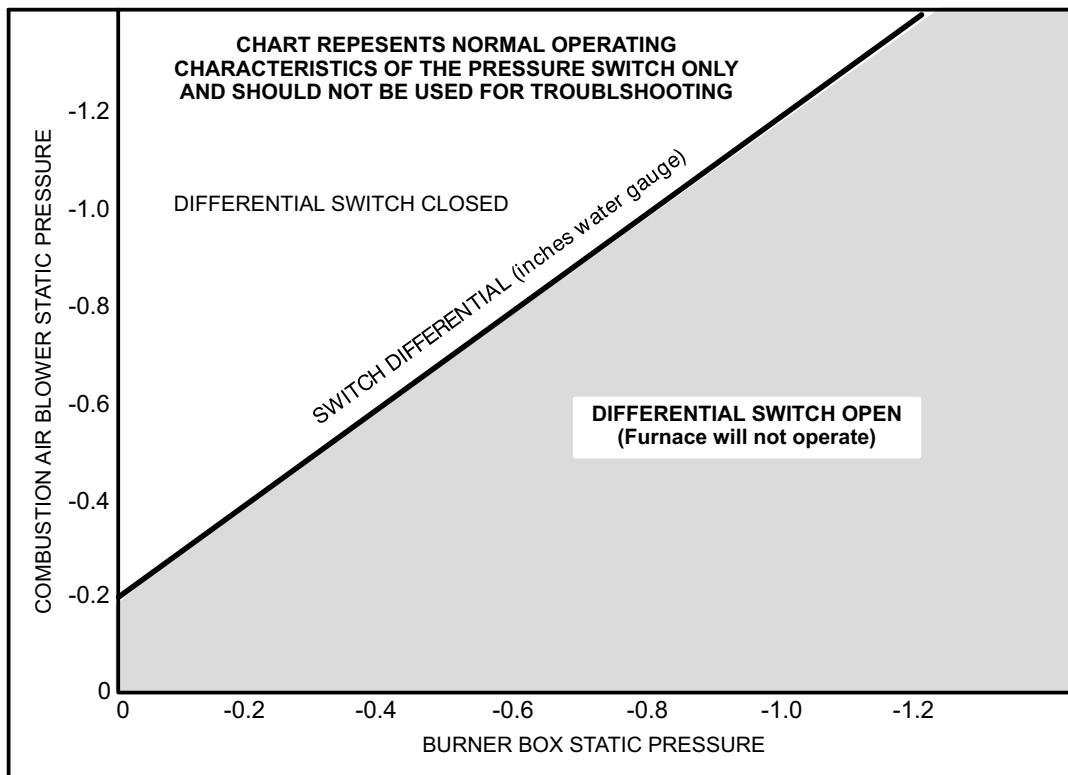

FIGURE 19
Figure 19 shows an example of the pressure differential (.20" W.C. shown) required to obtain unit operation. If the switch does not successfully sense the required differential, the switch cannot close and the furnace cannot operate.
Checks of pressure differential can be made as an aid in troubleshooting. It is important to remember that the switch must see the required differential in order for the furnace to operate. Lack of differential usually indicates problems in the intake or exhaust piping but may indicate problems in the heat exchanger, condenser coil, header boxes, combustion blower or other components. Generally, if both readings are closer to zero (figure 19) the unit may have a restricted flue outlet or other problem. If both readings are farther from zero (figure 19) the unit may have a restricted flue inlet or other problem.
- b. Take a second reading after unit has reached steady state (approximately 5 minutes). Both readings should fall above the line shown in figure 19.
- 10- Compare readings to figure 19. Be sure to compare only like readings (compare startup reading to startup reading, then compare steady state reading to steady state reading). Subtract the absolute steady state readings from one another. This will be the pressure differential. **In order for the furnace to operate, the larger negative must always be on the combustion**